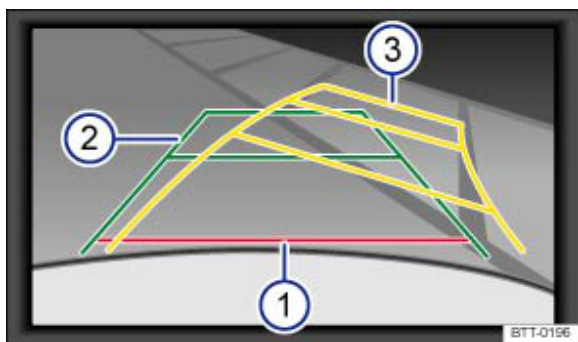

Fig. 162 On the screen: orientation lines for the parking space behind the vehicle
Meaning of the orientation lines on the screen → Fig. 162. All distances of the orientation lines refer to a vehicle on a horizontal surface.
- Reverse slowly and steer the vehicle so that the yellow orientation lines lead into the parking space → Fig. 162 ③.